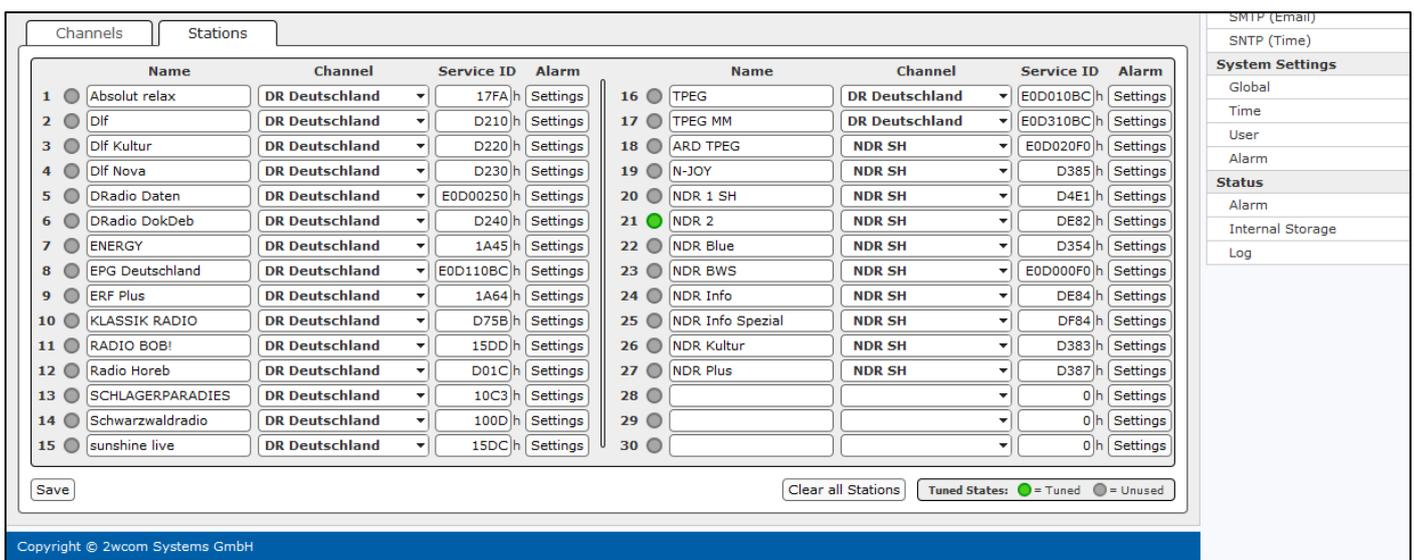

Fig. 19: DAB Settings – saved Stations and Channels
- ⇒ The stations and the belonging channels are displayed in the "Stations" tab (see Fig. 19).
1. To view and monitor available stations (services), open DAB Settings→Stations/Bandscan and select "Stations" tab (see Fig. 19).
5. To select a station for tuning and monitoring from the list, click the corresponding State LED (grey) in the "Stations" tab (see Fig. 19).